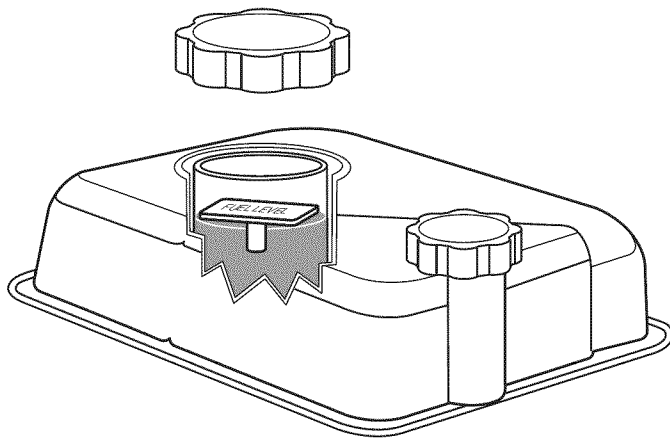

Figure 8
2. A fuel level indicator is located in the fuel tank. Fill the tank until the fuel reaches the fuel level indicator. Be careful not to overfill (see Fig. 8).